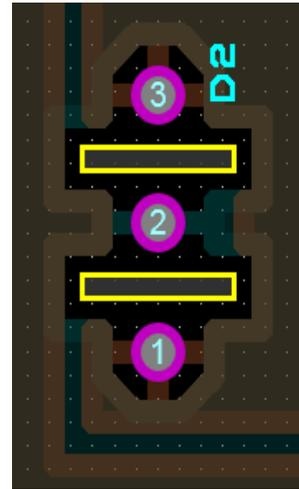

Figure 3. Example of Thermal Relief “Spokes” to TO-247 Leads, with Slots Between Leads to Increase Creepage Distance
- Use thermal relief patterns on circuit board pads, which are “spokes” that connect from the plated through-hole to copper pour and internal plane areas. See Figure 3 for an example. Connections to power planes are very common for THT power devices. Eliminating thermal relief patterns in an effort to improve electrical performance makes circuit board assembly impractical and unreliable because too much heat is drawn away during the solder process, forcing far excessive solder time.